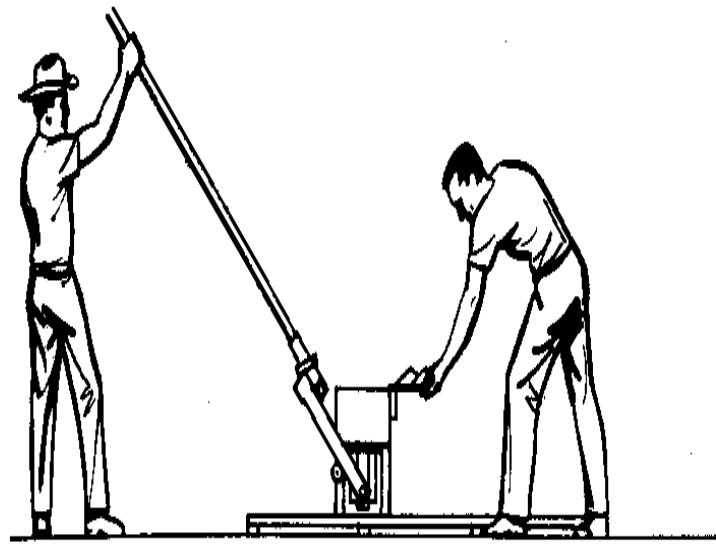

Fig. 11 - Returning the Lever to Rest
(11) Abra la tapa (vea Fig. 11).